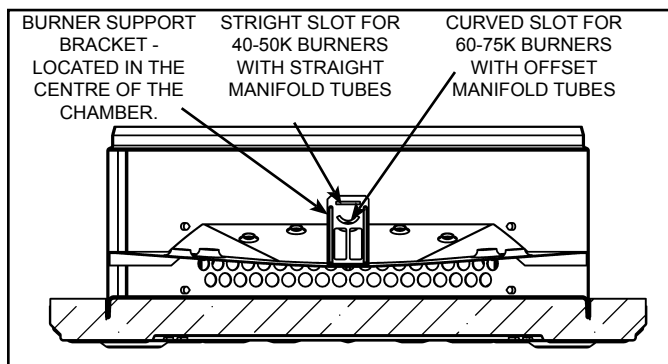

Figure 16
1. Insert the manifold/burner assembly in the burner chamber compartment, making sure that the tip of burner manifold tab engages in the proper slot of the bracket. The tip end of the burner manifold **MUST** be placed in the slotted portion under the condensation pan to obtain proper installation (see Figure 16).
1. Insert the manifold/burner assembly in the burner chamber compartment, making sure that the tip of burner manifold tab engages in the proper slot of the bracket (see Figure 16).